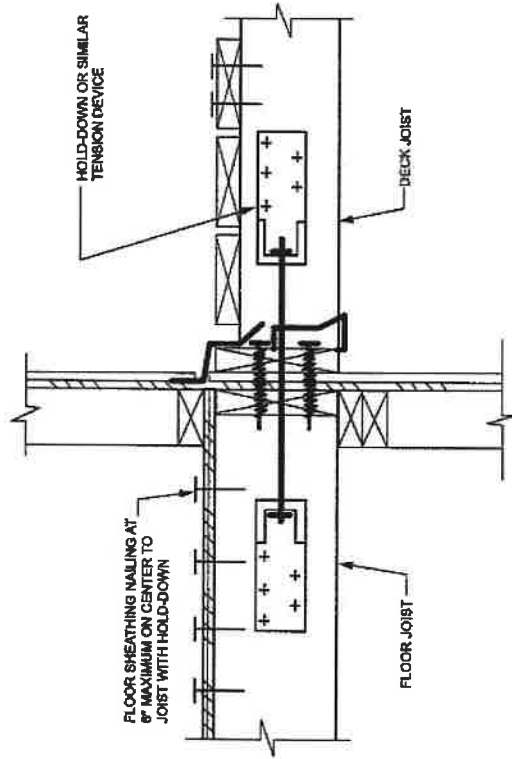
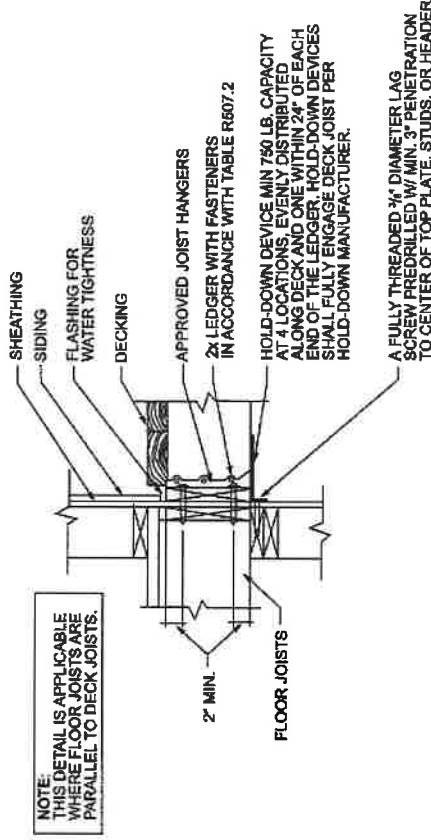

FIGURE 1
FIGURE 2
Member sizes were designed assuming beams were braced continuously to prevent lateral compression buckling. Where the lateral load connection is provided as shown in Figure 1 below, hold-down tension devices shall be installed in not less than two locations per deck, within 24" of each end of the deck. Where the lateral load connection is provided as shown in Figure 2, the hold-down tension devices shall be installed in not less than four locations per deck.
**EXAMPLE 1B:** A second method of construction is to have the deck boards running perpendicular to the house with floor joists running parallel. This method uses a deck beam loaded on both sides to allow joist spans of 7'-6". Using **Table 1** and a joist spacing of 24" on center, 2x6 joists can be used. The house wall ledger board in this case is not required since ledger boards are not allowed to support concentrated loads from beams or girders. Additional posts will be required at the house to support the deck beams. The deck beams will now run perpendicular to the house and the deck is free-standing. **Table 4** shows us that 2-2x8 deck beams will span 7'-7" between posts. This means that for a 12' deck beam a post will be required mid-span of the beam and another at each end of the beam. Again, **Table 2** requires 6" x 6" posts for a deck height of 10' and **Table 3** shows footings of 17" x 17" square or 19" diameter round when using 2-2x8 beams or girders. Lateral load tension devices will be installed per Figure 1 or Figure 2 above.